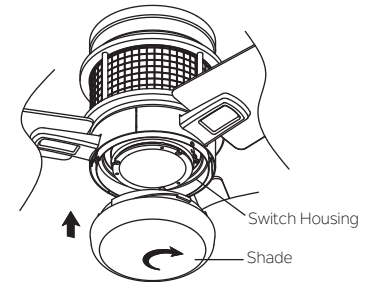

Fig. 17
Step 4. Secure the shade to switch housing by twisting in a clockwise direction. Do not over-tighten. (Fig. 17)